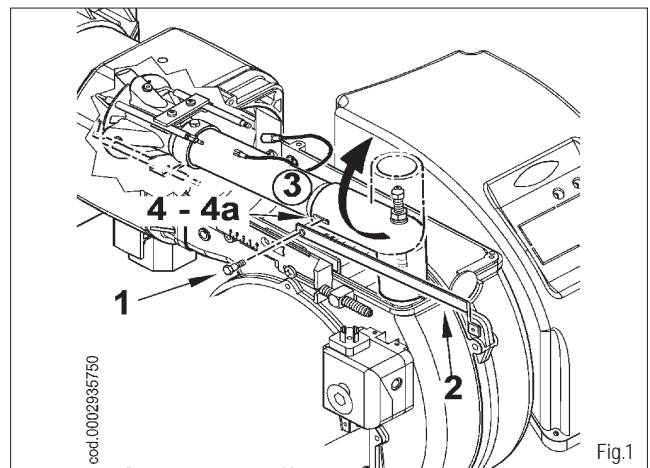

Fig.1
- 1) Following the instructions detailed in the "Maintenance" paragraph, extract the mixer assembly and remove the screws (1) which connect the unit's forward movement rod (2) to the gas delivery pipe (3) passing through the hole (4) made in the bend coupling (figure 1).
- 2) Turn the bend coupling through 180° in such a way as to match the gas delivery pipe to the hole (4a) made in a diametrically opposed position to the coupling itself. Reconnect the unit's forward movement rod (2) and the gas delivery pipe (3) with the screws (1) in figure 1.
- 1) Insert the 7 and 4 pole plugs for version "P", in the appropriate sockets located below the electrical panel base as shown in figure 1.